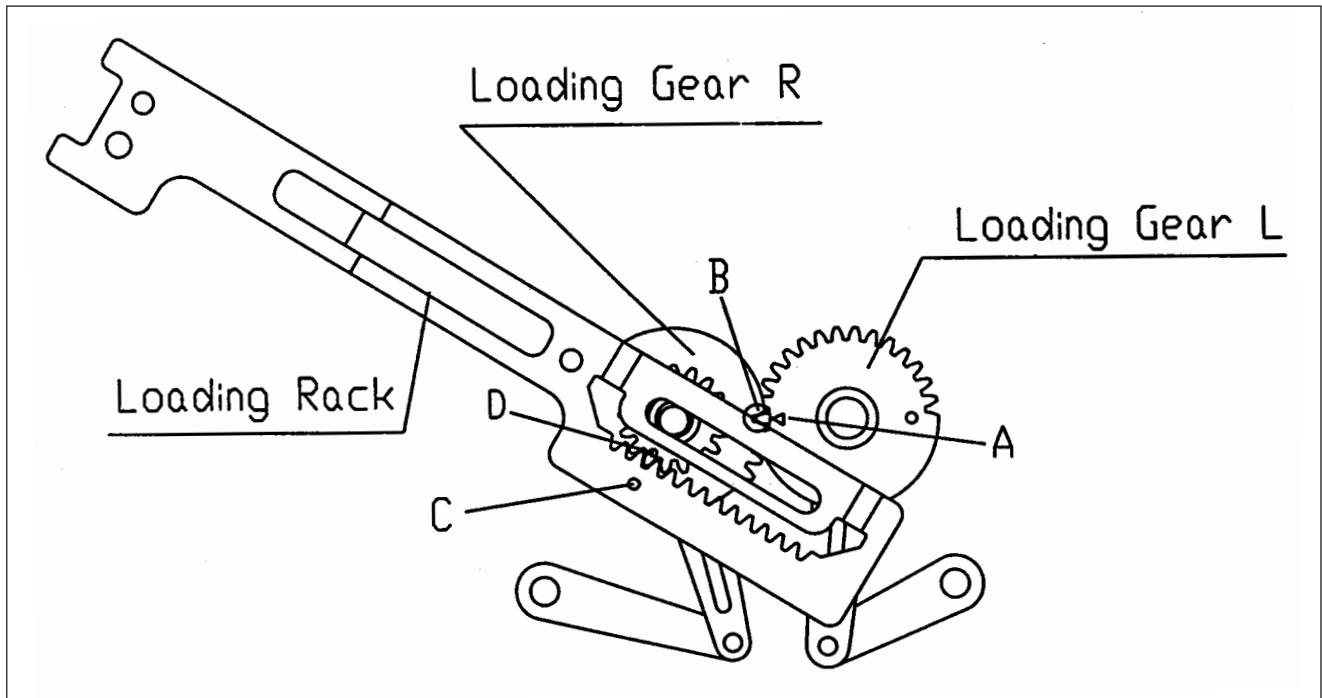

Fig. 5- Mechanical Checks/Loading Loading Rack and Loading Gear Alignment
5. Confirm that the triangular mark "A" on the Loading Gear L Ass'y is aligned with the notch "B" in the Loading Gear R Ass'y in EJECT mode (Fig. 5)
6. Make sure that the teeth of the Loading Rack are aligned with those of the Loading Gear R so that hole "C" of the Loading Rack aligns with the circular mark "D" on the Loading Gear R (fig. 5)